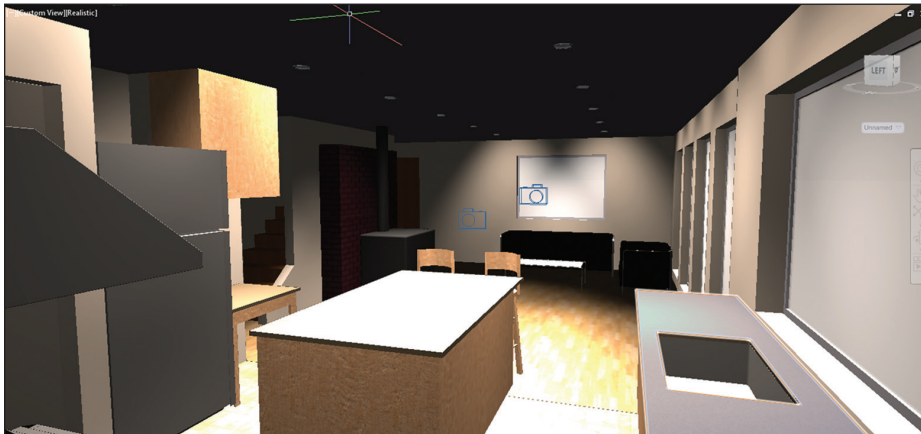

FIGURE 18.12 Selected spotlights reveal light coverage as seen in the camera view.
- In the Properties palette, change Lamp Intensity to 15000, Hotspot Angle to 30, and Falloff Angle to 60. Figure 18.12 shows the resulting light glyphs in the drawing canvas. Close the Properties and Lights In Model palettes. Press Esc to deselect all.